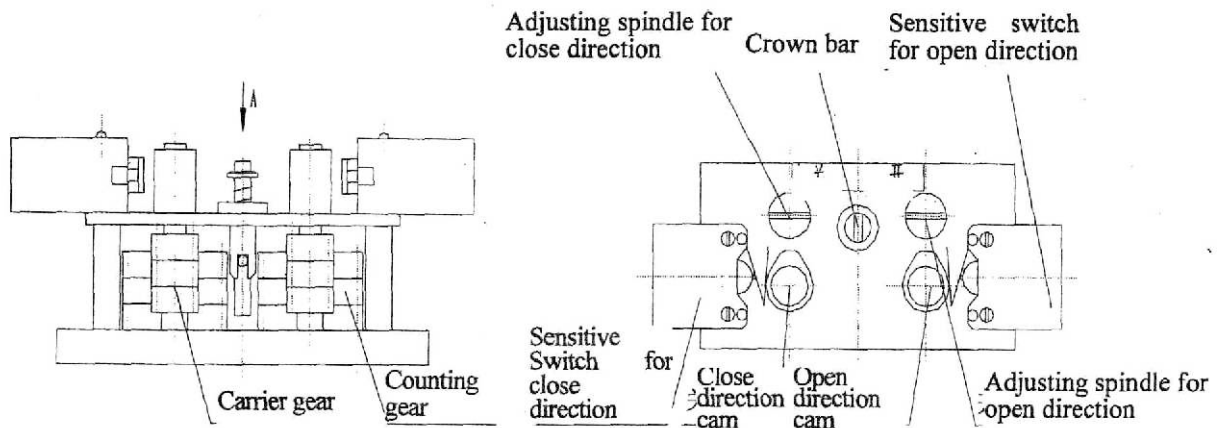

Figure 6
It applies the principal of decimal counter with high control accuracy. It is the complete line of general purpose part, and we can refer to Figure 6 for its structure. The following is the operating principal of the motion controller: one pair of big and small bevel bears inside the reduction gearbox will drive the driving pinion ($Z=8$), and then drive the motion controller to work. If the motion controller has been regulated according to the open position and close position of valve, and when the controller turns to the preset position (number of turns) along with the output axis, the cam will turn 90° to drive the sensitive switch to actuate, which can cut the motor power supply, and stop the motor, and so achieve the control to the travel (number of turns) of electric actuator.
6.2 the adjustment for motion controller (Refer to Figure 6)